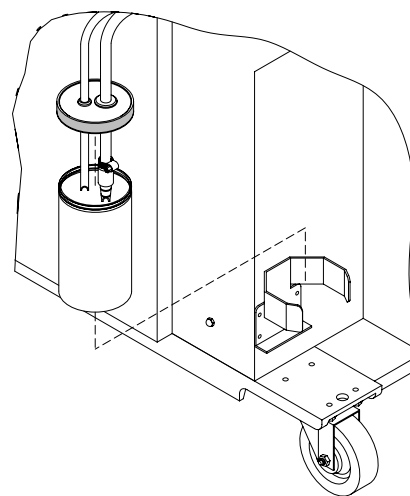

FIG. 11. Pump Lubrication System
6. Thread the reservoir onto the cap assembly and place it into the bracket. See FIG. 11.